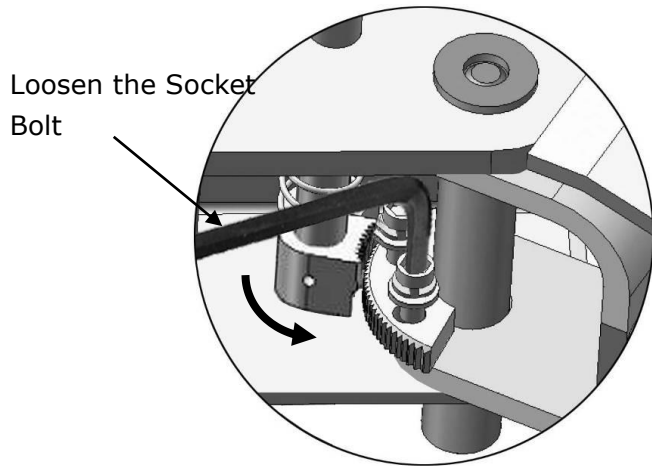

Fig. 36
2. Lower the carriages down to the lowest position, then use an 8mm allen wrench to loosen the socket bolt (**See Fig. 36**).